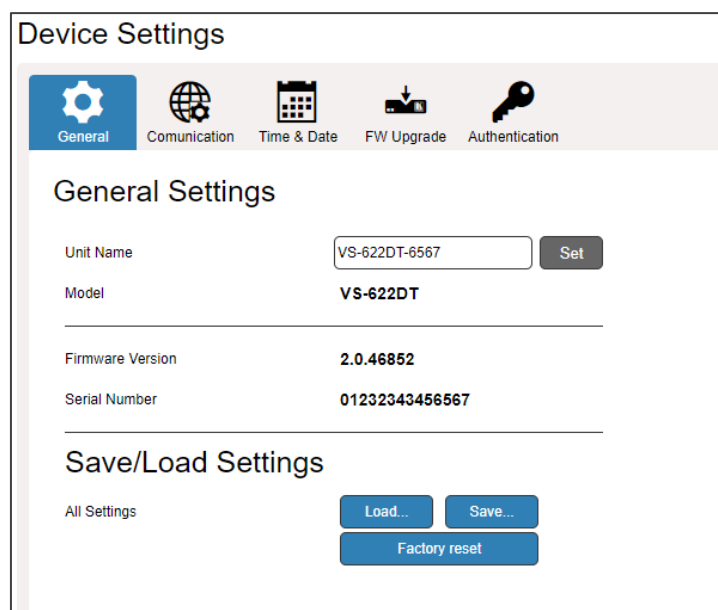

Figure 26: Device Settings Page – General Tab
1. In the Navigation pane, click **Device Settings**. The General tab in the Device Settings page appears (see Figure 26).